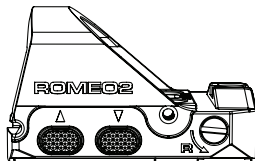

FIG. 3
A. **NO SHROUD.** This configuration saves weight and is suitable for general range, carry and competition use. (Fig. 3)